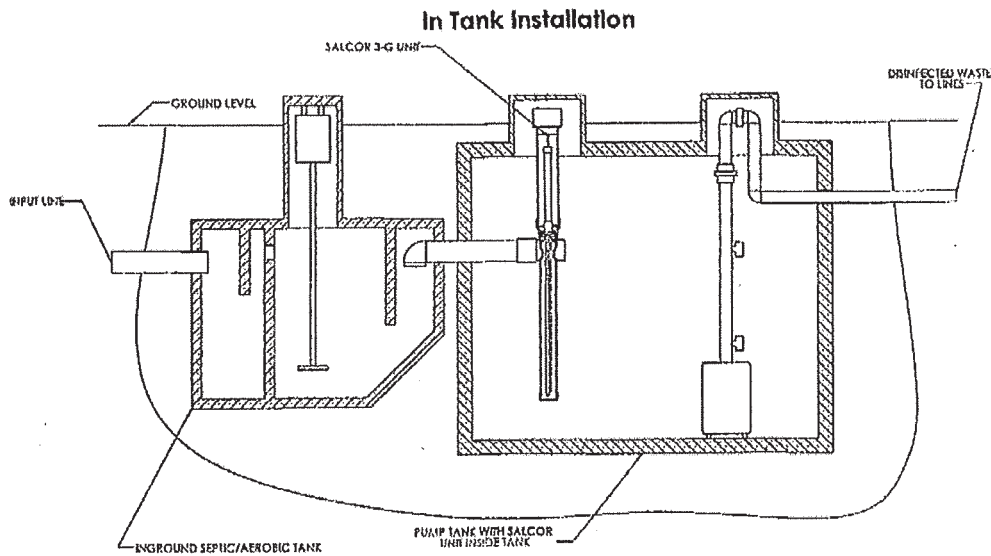

Figure 3
2. In a Pump Tank: couple the UV unit inlet pipe to the pretreatment unit exit pipe at the entrance of the pump tank. See *Figure 3*.